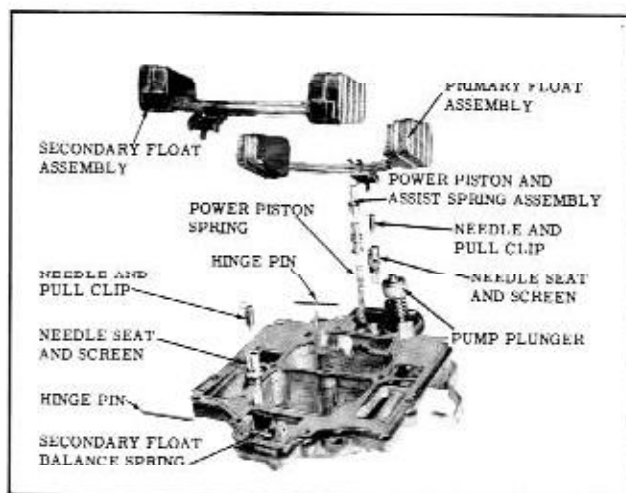

Fig. 8-109 Air Horn Assembly
10. Remove the hinge pin from the primary float assembly, then slide the float and needle away from the power piston stem. (Fig. 8-109)